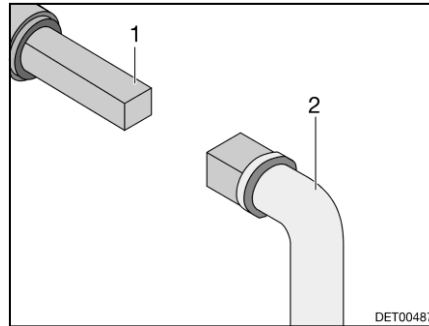

Fig. 107 Operation of the waste water tap
- Place key (Fig. 107,2) onto the square bolt (Fig. 107,1).